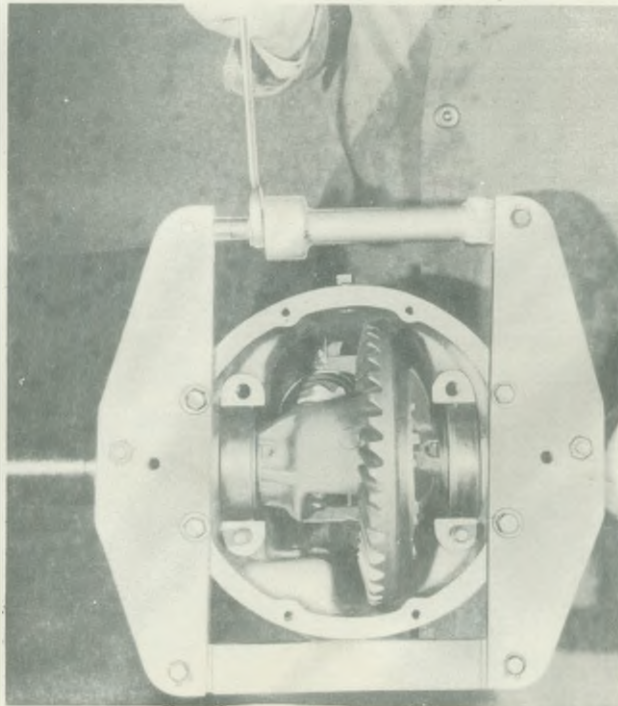
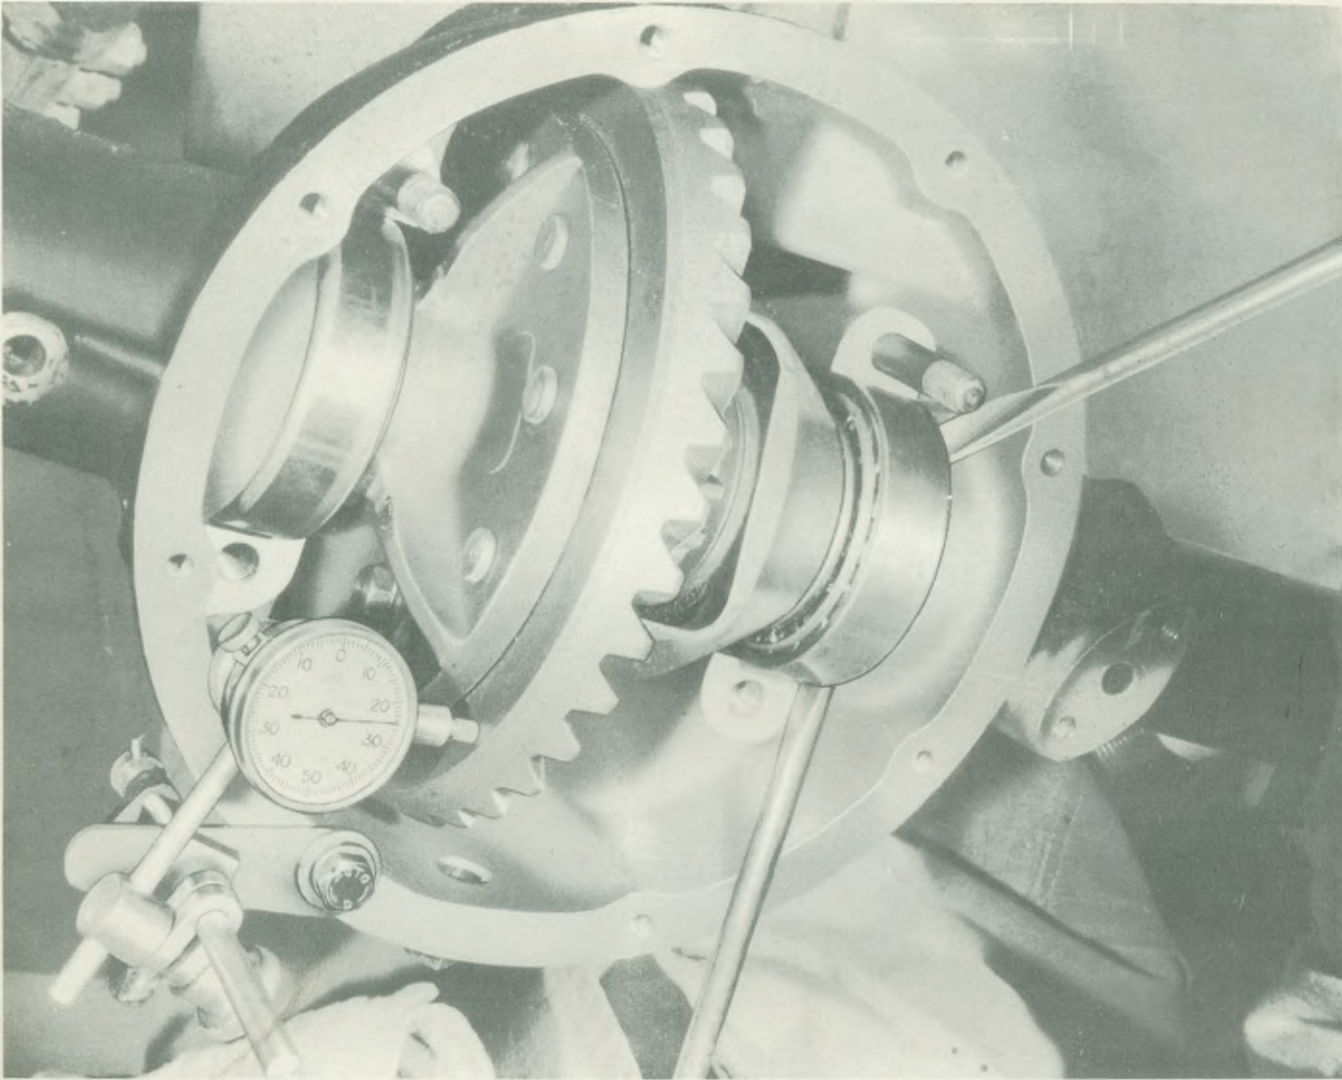
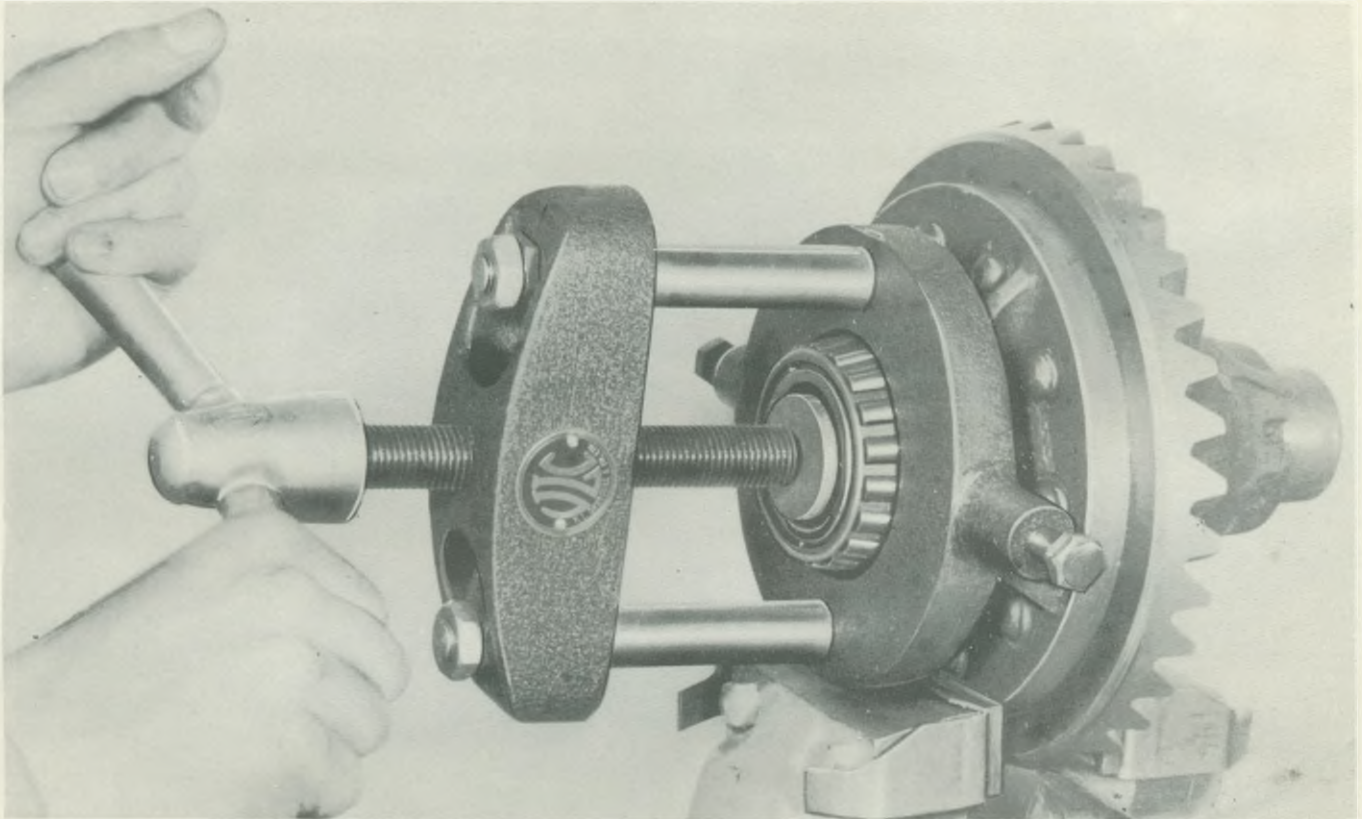

Fig. 15. Using casing spreader—Tool No. 20SM-4220
Fig. 28. Checking side float of differential assembly in relation to hypoid pinion
Fig. 29. Removal of differential bearing inner ring with approved extractor.
8. Fit the casing spreader as shown in Fig. 15 and spread casing just sufficiently to over-
12. Install a dial indicator, with its plunger against the back of the crown wheel, and by prising the outer ring of the differential housing bearing with two large screwdrivers or other suitable levers, the crown wheel hard into the pinion. After setting the dial indicator to zero force the differential assembly in the opposite direction as shown in Fig. 28, until the opposite bearing cup is hard against the housing. The reading of the dial gauge now registered (less .006" for crown wheel and pinion backlash) represents the thickness of shims required between the bearing on the crown wheel side and the differential casing. By subtracting this latter dimension from the total shims, the thickness calculated in Operation 5, obviously gives the shim thickness for the other differential bearing. Extract side bearings, employing extractor as shown in Fig. 29, and fit shims, as calculated above, afterwards re-installing assembly and securing bearing caps, regarding their correct inter-relation indicated by markings. (Spreader shown in Fig. 15 will facilitate installation of differential unit.)